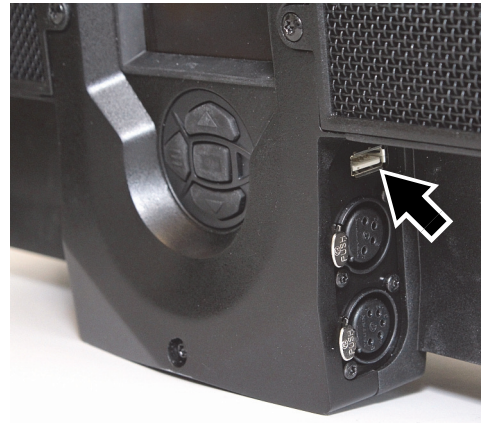

Figure 11: USB host socket
4. See Figure 11. Insert the USB memory device into the Atomic 3000 LED's USB host socket. The fixture should recognize the USB device, illuminate the display and show **UPDATING FILE LIST** in the display while it checks and if necessary updates its internal memory with any new firmware versions stored on the USB device. If the fixture does not recognize the USB device, scroll to the **USB** menu under **SERVICE** in the control panel.